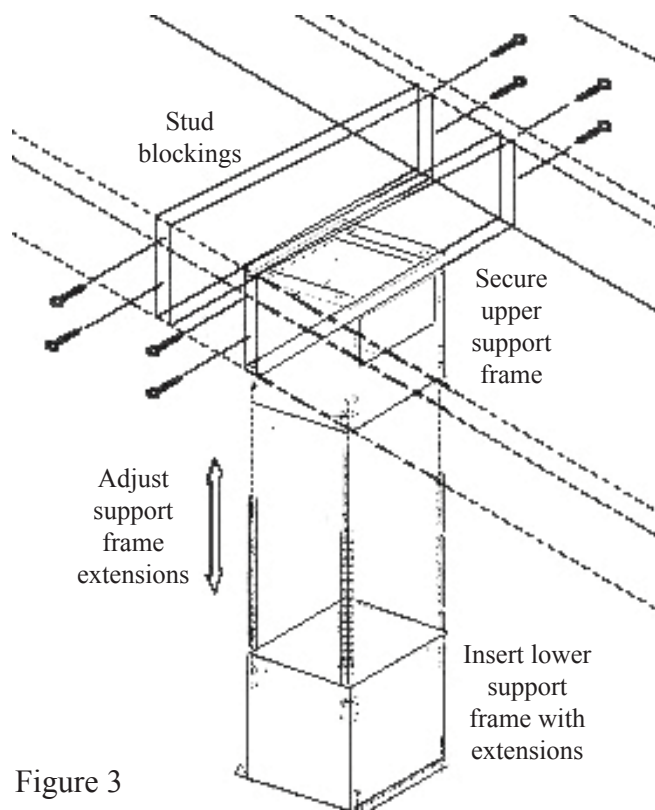

Figure 3
4. Fasten the support frame extension onto the lower support frame using four “B” bolts and “C” nuts as shown in Figure 3. Repeat this step for rest of the support frame extensions. IMPORTANT: Always use first and second holes on the support frame extensions.
6. Position the lower support frame with support frame extensions to the upper support frame, fasten each extension with four “B” bolts and “C” nuts as shown in Figure 3.
7. Slide the upper chimney cover over the completed support frame and fasten with two “F” bolts to the upper support frame. (See Figure 3 for illustrations).